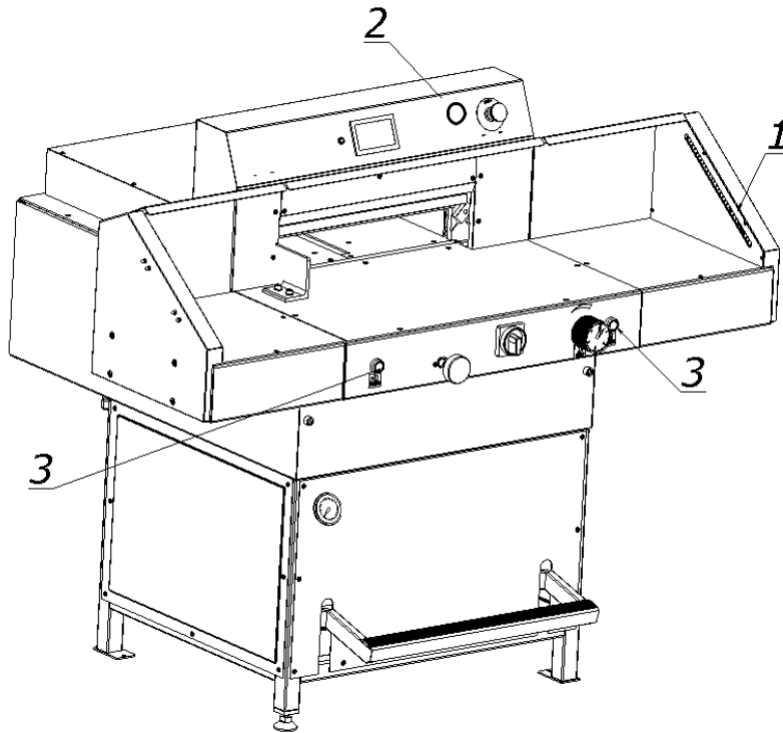

Fig. 19 Operating and signaling elements used during cutting.
1. there is no object in the work area of the light barrier - the green OSSD 1 LED lights up (Fig.11) on the receiver 1 (Fig.19).